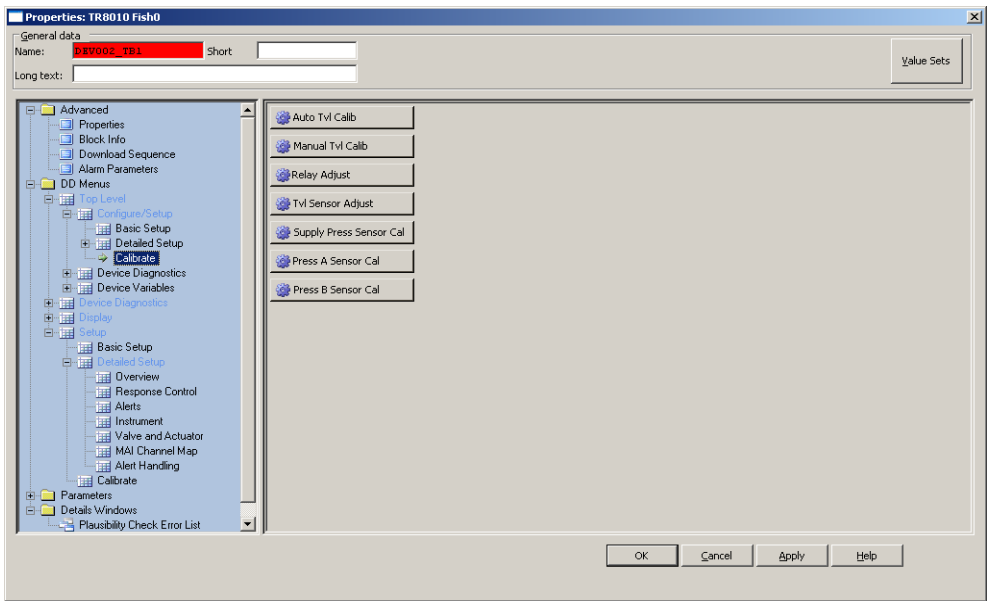

Figure 170. Block Properties Dialog
- a. Open the Properties dialog of the function block by double clicking the block in the FF Application object or in the H1 device object (refer to Figure 170).